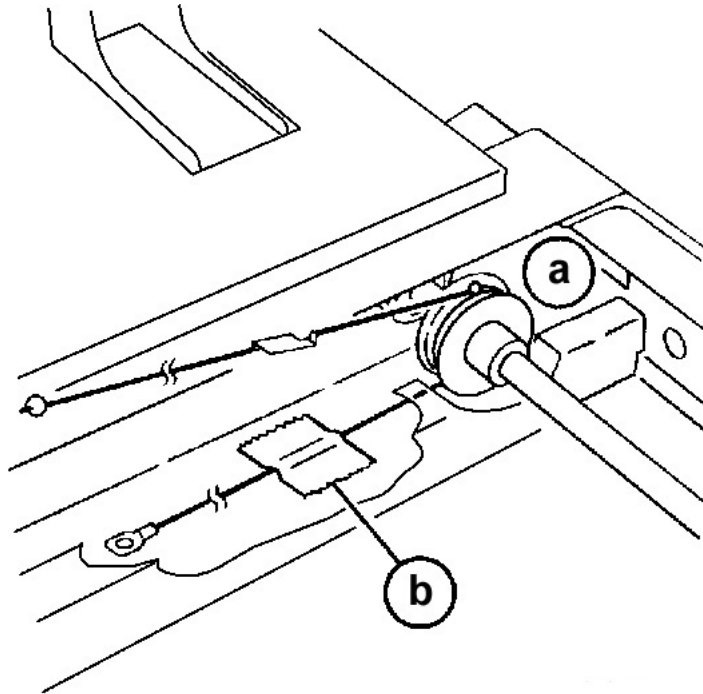

Figure 6 Winding Clip end of Carriage Cable on Capstan Pulley
2. Wind the Clip end of the Carriage Cable for 3.5 turns. Figure 6